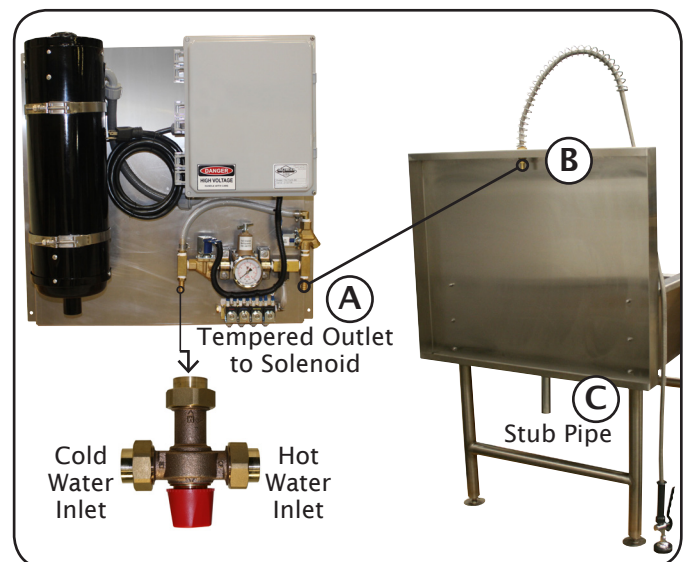

figure 6
2. If you purchased a Back Room Equipment Package, the Tempering Valve will need to be plumbed in line and the 1/2" hose ran to the inlet solenoid on the Control Board, and then from the outlet of the injector to the barb fitting on the back of the tub. (Fig. 6-A & 6-B)
4. Plumber to run a drain pipe from 1½" Stub Pipe on Tub to Strainer inlet and then from Strainer outlet to trap. Since all configurations may differ, your plumber will have to decide what works best for your application. Use **Figures 6-B & 7-A** as an example.